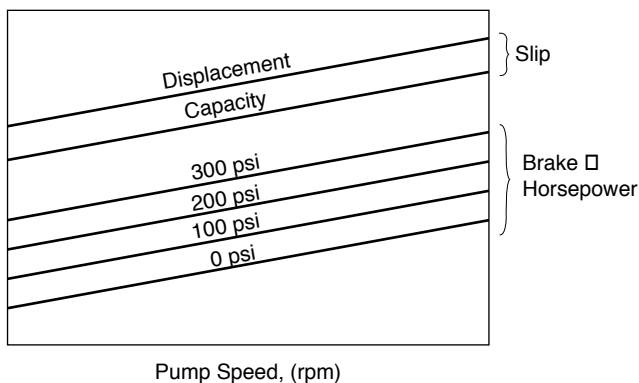

FIGURE 68. Rotary Pump Performance
- The performance curve that has been used up to this point, while indicative of rotary pump performance at a specified speed and viscosity, is not practical for pump selection. Since these pumps can be operated over a very wide range of speeds, it is much more practical to show performance as displayed in Figure 68.